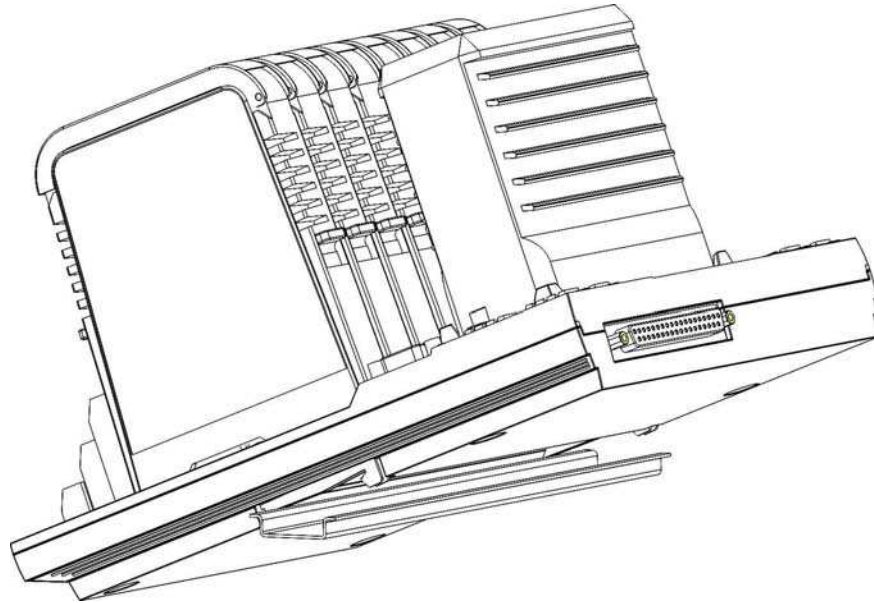

Figure 3-2. Mounting of ISTA-*BP* on DIN Rail
2. Position the ISTA-*BP* with the two clamps suspended over the DIN rail on the back. See Figure 3-2.